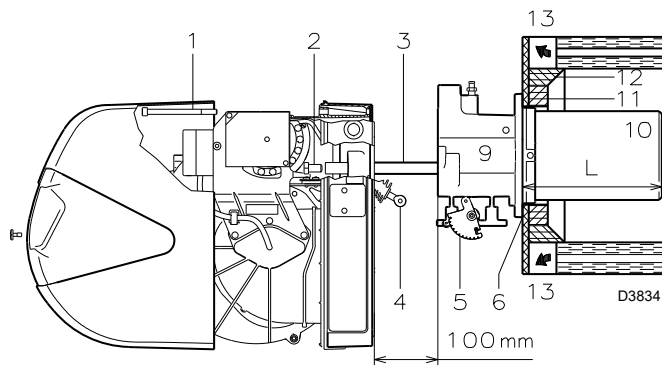
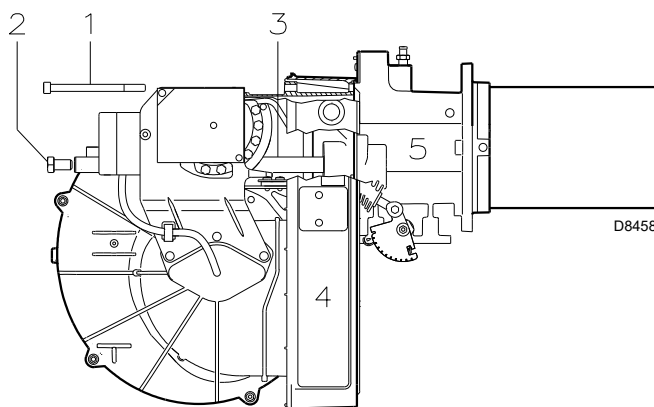

Fig. 11
Fig. 17
For boilers with front flue passes 13)(Fig. 11), a protection in refractory material 11) must be inserted between the boiler refractory 12) and the blast tube 10).
For boilers with a water-cooled front piece, a refractory lining 11)-12)(Fig. 11) is not necessary, unless expressly requested by the boiler manufacturer.
- Separate the combustion head from the rest of the burner (Fig. 11):
Fix the unit 9)(Fig. 11) to the boiler plate, inserting the supplied insulating gasket 6)(Fig. 11).
Once you have finished adjusting the head, reassemble the burner 4)(Fig. 17) on the slide bars 3)(Fig. 17) at about 100mm from the pipe coupling 5)(Fig. 17) - burner in the position shown in 4)(Fig. 11) - insert the cable of the probe and the cable of the electrode, then slide the burner as far as the pipe coupling, burner in the position shown in Fig. 17.
Refit screws 2) on slide bars 3)(Fig. 17).
Fix the burner to the pipe coupling with the screw 1)(Fig. 17).